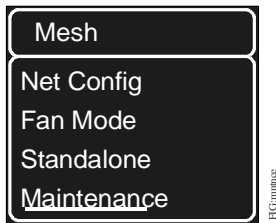

Figure 20: Selecting Mesh
2. Press the Down button  to enter the menu, then press the Up button  to select **Mesh** on the menu (Figure 20).